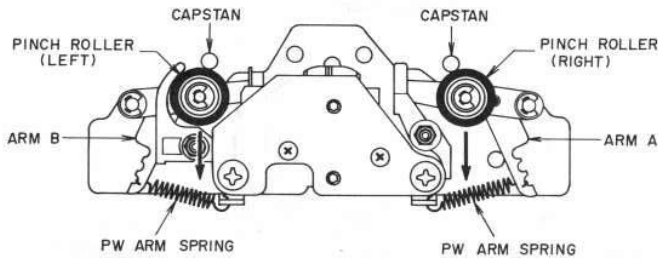

Fig. 5
4. PINCH ROLLER PRESSURE ADJUSTMENT (See Fig. 5)